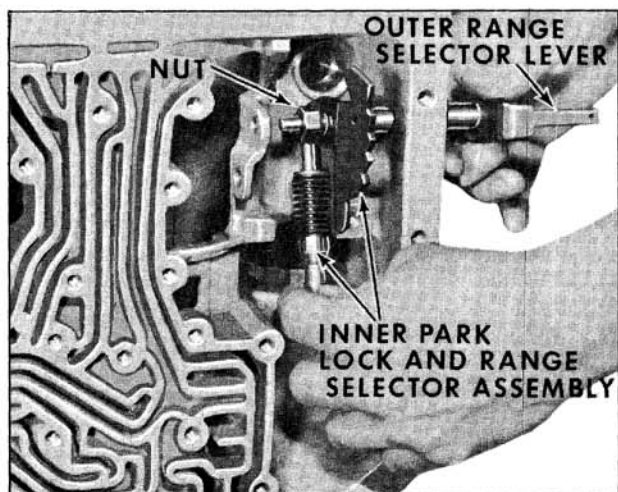

Fig. 6-388 Removing Outer Range Selector Lever
4. Slide outer range selector lever out of case. Remove nut, inner park lock and range selector lever. (Fig. 6-388)